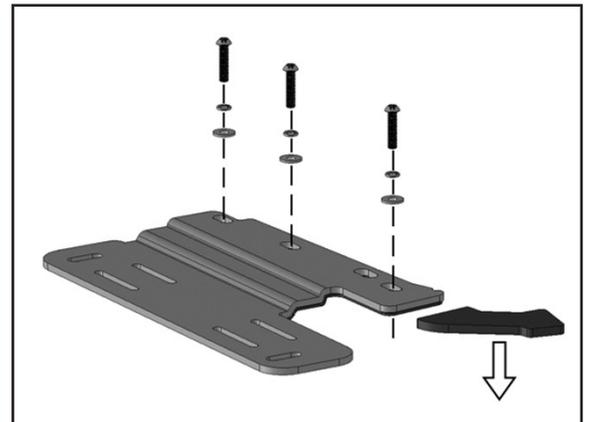

FIGURE 8
6. With assistance, lift the top frame at the rear. Attach the driver/left Mounting Bracket to the threaded holes in the top of the body with the included (3) 8mm x 35mm Button Head Torx Bolts, (3) 8mm Lock Washers and (3) 8mm x 20mm STD Flat Washers, **(FIGURE 8 & 9)**. Fully tighten hardware.